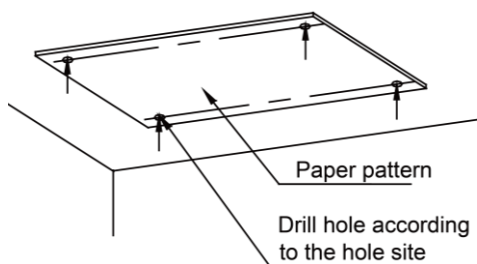
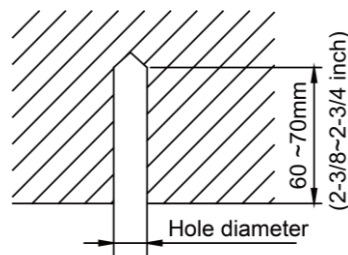

Fig 4.1.3
Fig 4.1.4
- (1) Cut out the installation paper pattern according to the hook installation dimension of unit. Place the installation paper pattern on the installation area as shown in Fig 4.1.3. Punch holes on the installation area according to the 4 spots on the paper pattern; the punching diameter may refer to the diameter of expansion bolt, about 60mm (2-3/8in.) to 70mm (2-3/4in.) depth, as shown in Fig 4.1.4.